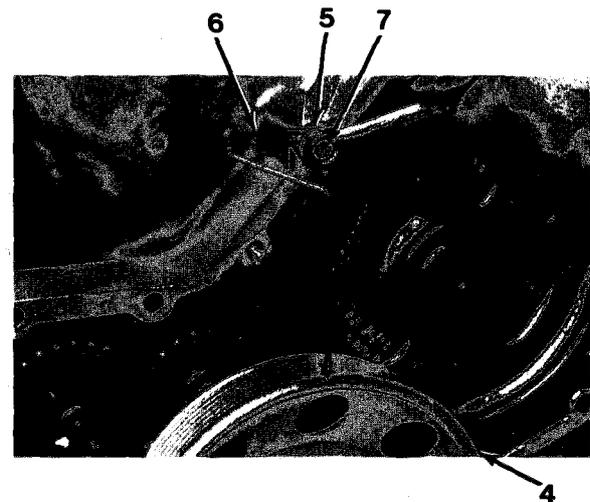

Figure 6-2
3. Using four 18 mm capscrews, install crankshaft pulley (4, Figure 6-2).
4. Fabricate a wire pointer by bending a piece of wire into approximately the shape shown in Figure 6-2.
5. Install flat washer (5), fabricated wire pointer (6) and 13 mm capscrew (7) to gear housing above crankshaft pulley (4).